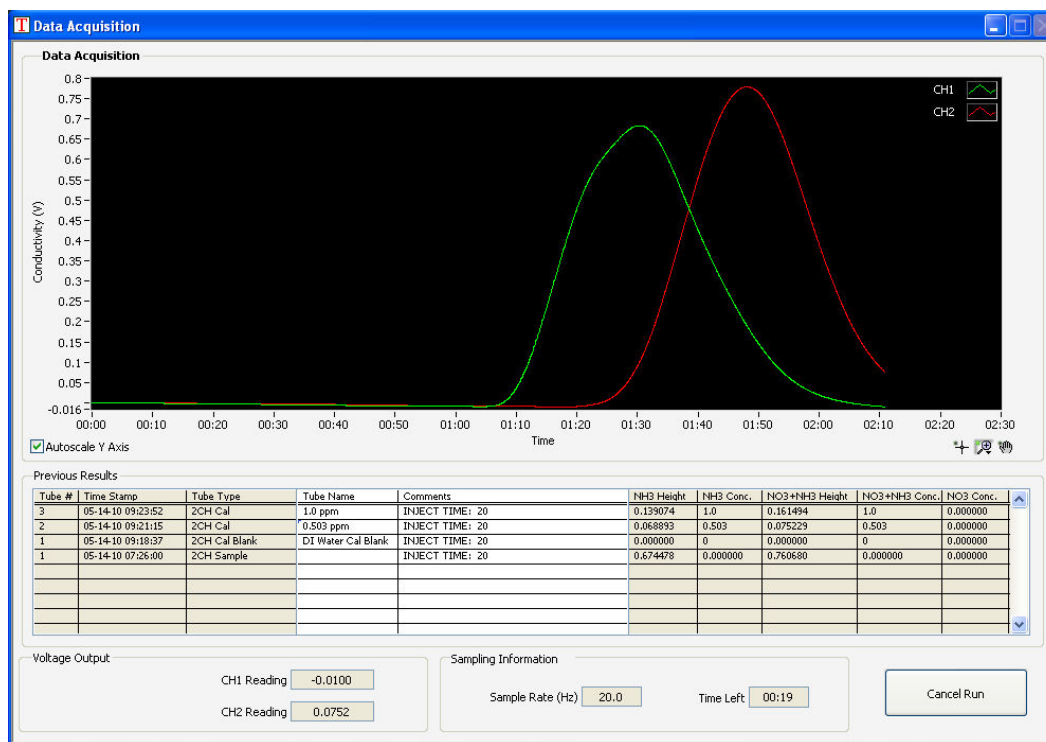

Figure 3-4: Data Collection Screen.
2. In the 'Calibration' sub-tab click the 'Start Calibration Run' button to commence data acquisition. The data collection screen will appear. See figure 3-4.